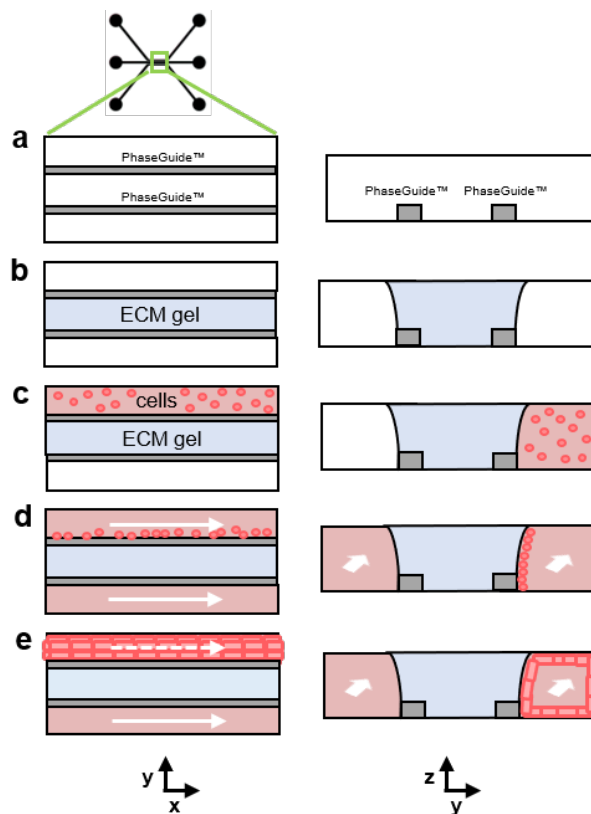

Figure 3: Schematic representation of tubule culture against ECM gel in the OrganoPlate® 3-lane
A collagen-I ECM gel is loading in the gel inlet of the OrganoPlate® and fills the gel channel. After polymerization of the gel, a cell suspension is seeded in the top medium inlet and fills the top medium channel. After cell attachment, medium perfusion is started to aid the formation of a tubule (figure 3).
- Seed 2 µL of cell suspension in the top medium inlet (columns 1, 4, 7, 10, 13, 16, 19, 22; rows A, D, G, J, M) using the same pipetting procedure as previously used for gel loading (see figure 3)